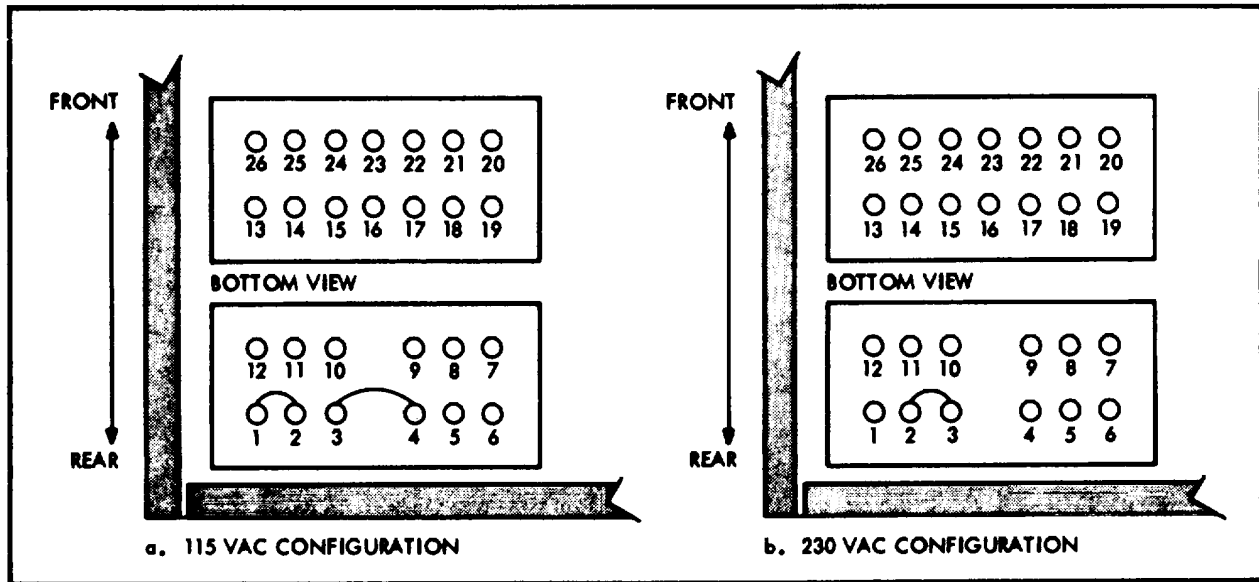

Figure 4-1. 115/230 VAC CONVERSION
- c. Orient the instrument and perform the appropriate electrical connections as illustrated in Figure 4-1.